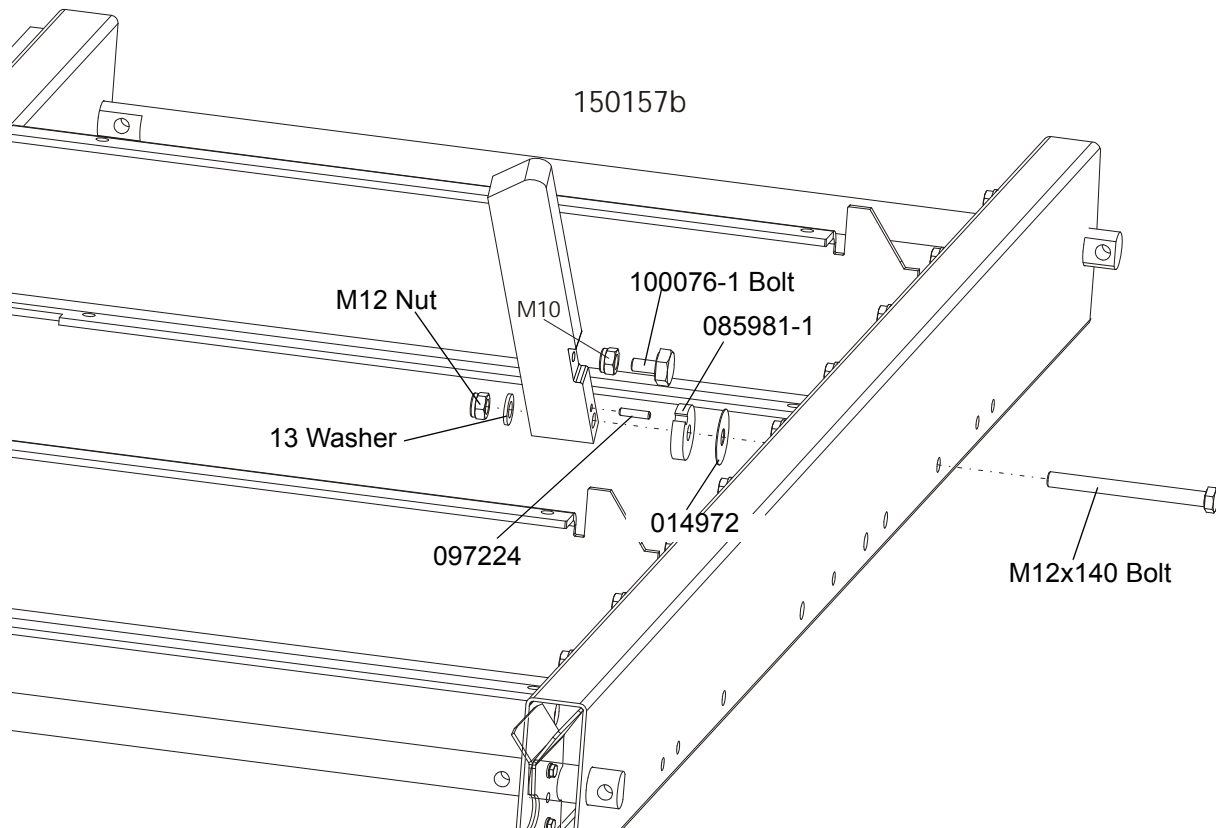

FIG. 3-8
9. Install the log side supports as shown in the Figure 3-8. Tighten the nuts so that the side supports can be moved with little resistance. Adjust the side supports. *See Section 6.11 of the LT15 sawmill Operator's Manual.*
See Figure 3-8.